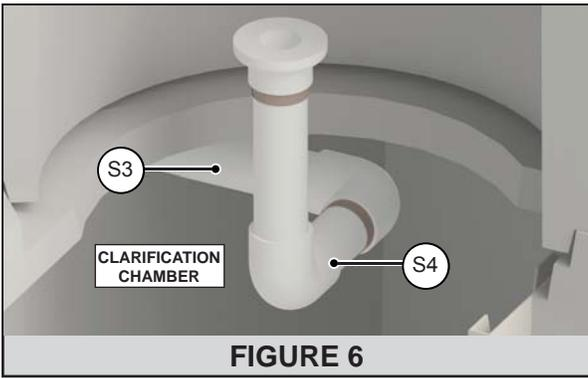

FIGURE 6
1. Remove the contents from black mesh bag with components labeled "SLUDGE". Solvent weld subassembly S3 to subassembly S4 in the clarification chamber (S3 was installed with the Tank Equipment Package). Be sure the union is facing up as shown in Figure 6.